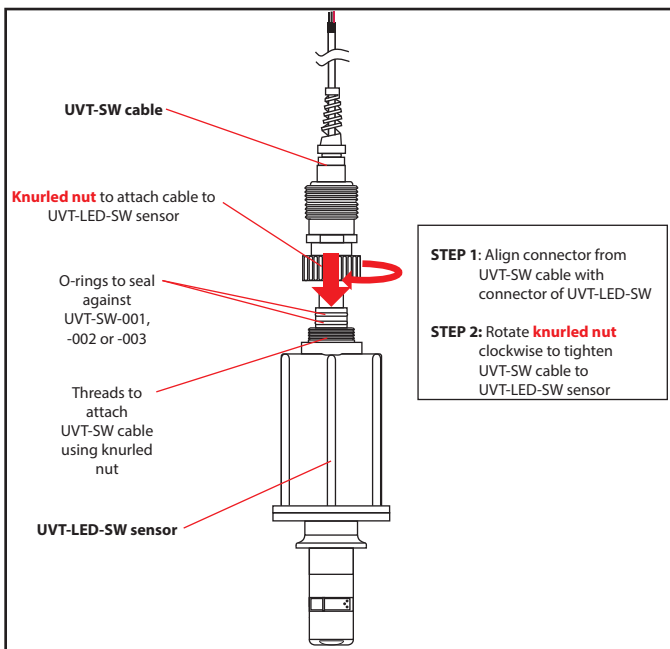
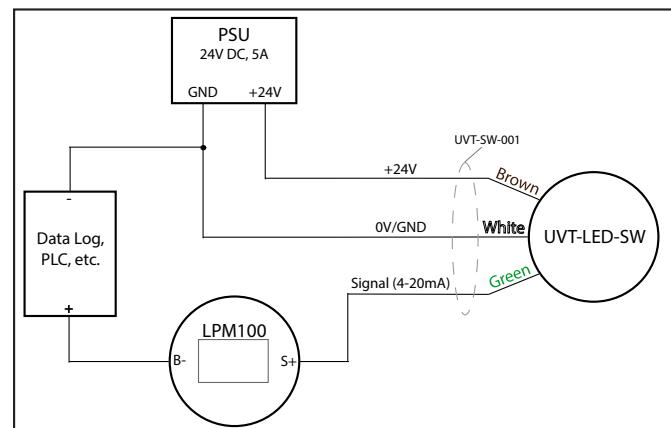

FIG. 1
FIG. 3 (with LPM100)
When the quartz cylinder is rotated into a position between the UV light source and the UV sensor, a wiper, attached to the rotating mechanism, wipes the windows in between the UV light source and the water sample and the UV sensor and the water sample, thus removing any contaminants or buildup of constituents from the water sample on the windows. See FIG. 1. Note that UVT-LED-SW does not have a display but all other components match FIG 1.
Step 2: Cable Assembly Preparation: A 10meter (33ft) cable assembly is included with each UVT-LED-SW. Assemble the cable to the 1" adapter of the UVT-SW mounting assembly. After the assembly is completely mounted then attach the sensor to the cable by aligning the connector parts and tightening the knurled nut clockwise until it stops (FIG 1). 1 inch of the cable jacket is stripped off for your convenience (see FIG 3). If you want longer leads, remove as much of the gray cable covering to reveal the length of wire you require. Next, strip the brown, white, and green wire tips to desired length and tin with solder to prevent wirings from fraying. Trim off braided shield and string filler even to cable jacket.